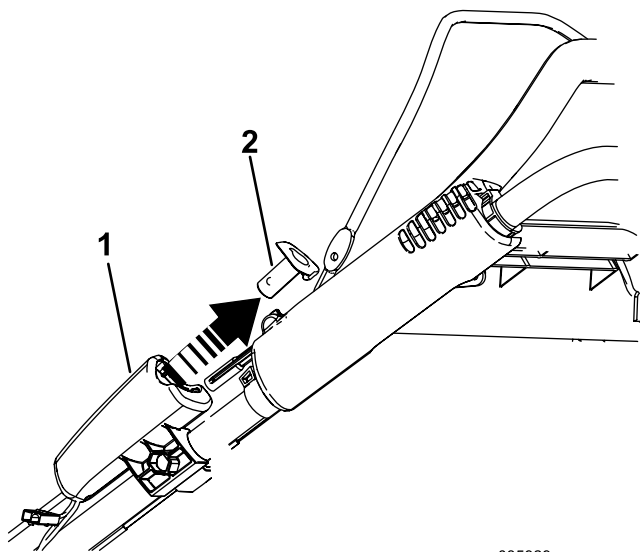

Figure 27
1. Remove the electric-start button (Figure 27).